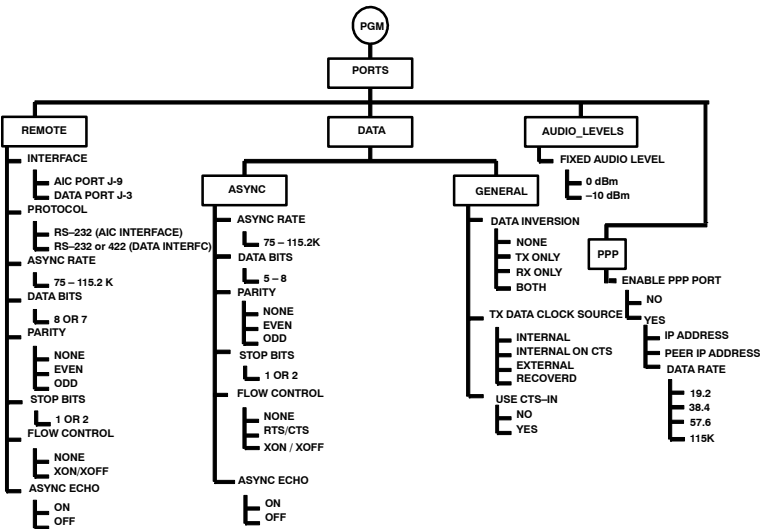

Figure 30. Ports Programming Menu Tree
The AN/PRC-117F has a fully configurable data interface. See Figure 30 for the menu programming tree.
- c. Use the left/right arrow keys to select **REMOTE**, **DATA**, or **AUDIO_LEVELS**. See Figure 30.
To access the DATA Port programming menu, press **PGM**, select **PORTS**, then select **DATA**. See Figure 30.